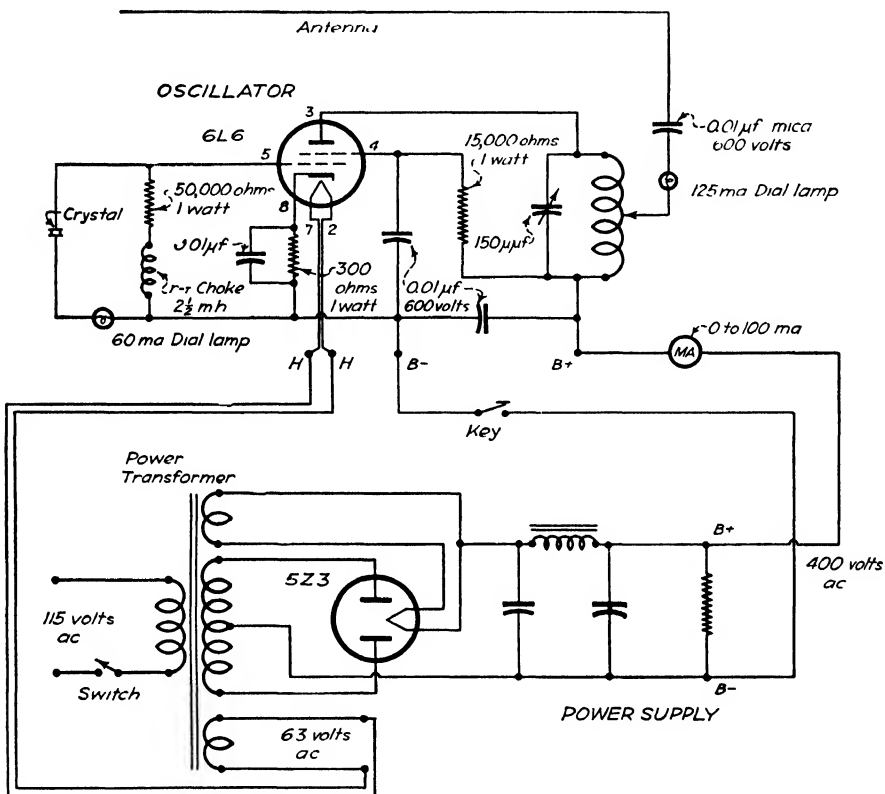

FIG. 458. The circuit for the simple transmitter.
Step 1. Connect the crystal oscillator described in Chapter 9 to the power supply, as in Fig. 457. The schematic circuit is shown in Fig. 458.
Connect a telegraph key in the B-minus lead (see Fig. 458).